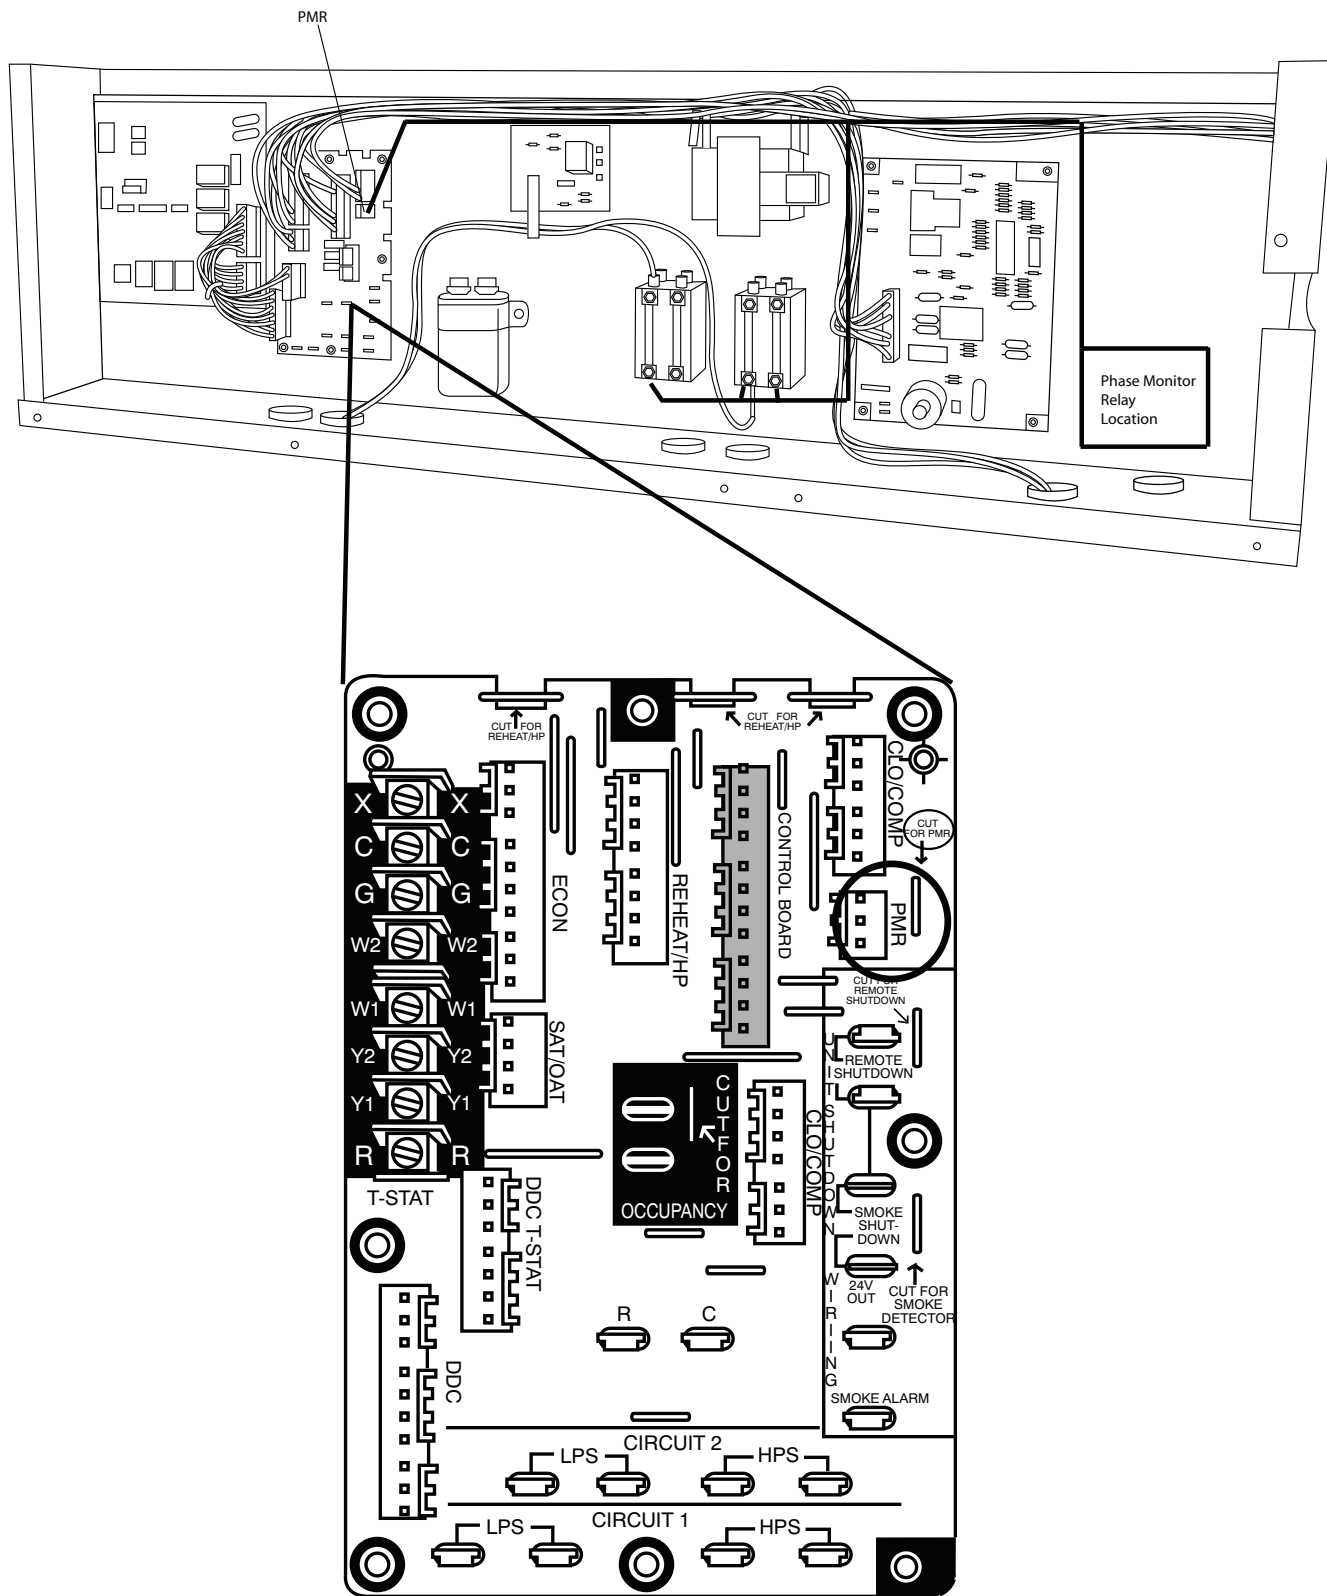

Fig. 2 - Controls Box Showing Mounting Location and Recommended Wire-Routing Path with Exploded View of Terminal Board (YAC with 3-Phase Indoor Fan Motor Shown)
2. Install the phase monitor module in the unit control box as shown in Fig. 2. Use the screws provided in the kit, screwing into the pre-drilled holes in the back of the control box.
3. Using the provided wiring harness, connect the female moxex plug to “PMR” male connector on the units mounted terminal board. See the terminal board diagram on Fig. 2.